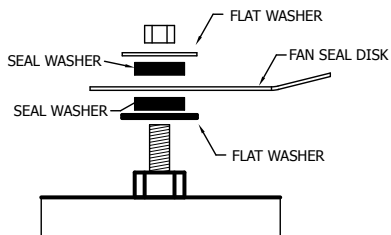

Figure 42. Replace Seal Disk
8. Replace fan seal disk, and tighten bolts until rubber seal washer compress to the diameter of the flat washers (**Figure 42**).